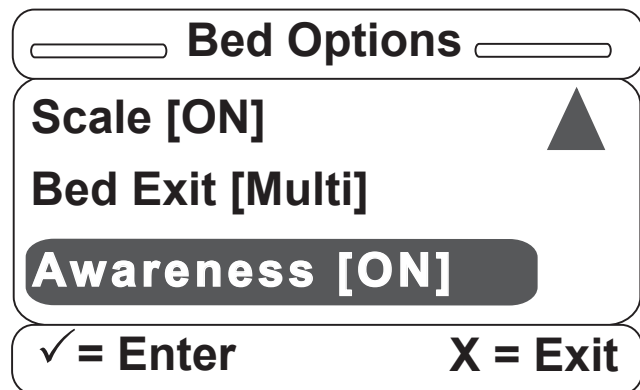

Figure S-17
17. After the Awareness option is confirmed and set, you will be returned to the Bed Options screen as shown in Figure S-17. You will notice text in square brackets next to each option in the Bed Options menu. This indicates all of your options as being set with the status in brackets. You may re-enter any option and change the setting at any time.